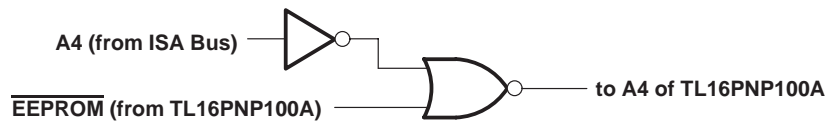

Figure 3. 32-Byte I/O Support
- Use a NOR gate and an inverter to qualify address line A4 with the signal \overline{EEPROM} as shown in Figure 3: